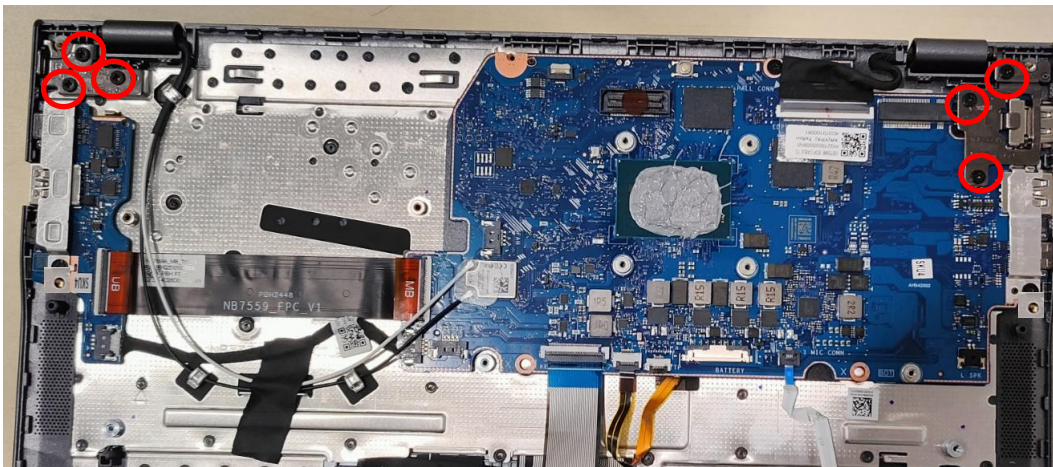

Figure 3-25. uppercase Removal
2. Unscrew the screws on the uppercase (Figure 3-25).